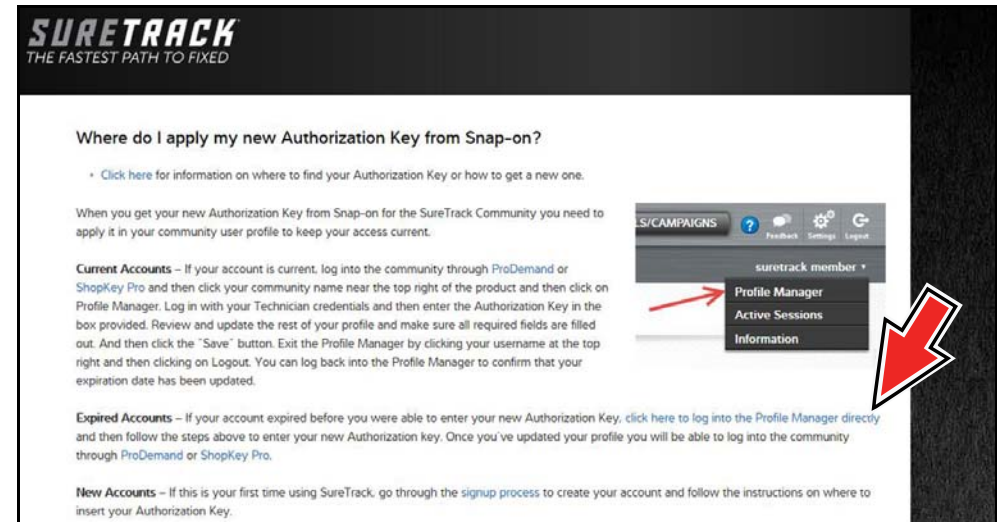

Figure 17-16
3. The SureTrack FAQ webpage opens (Figure 17-16).